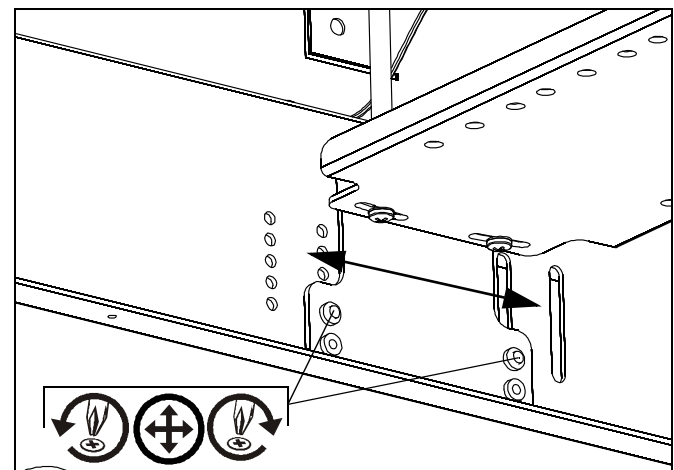

Figure 11
- Reinstall and tighten screws. (See Figure 11)